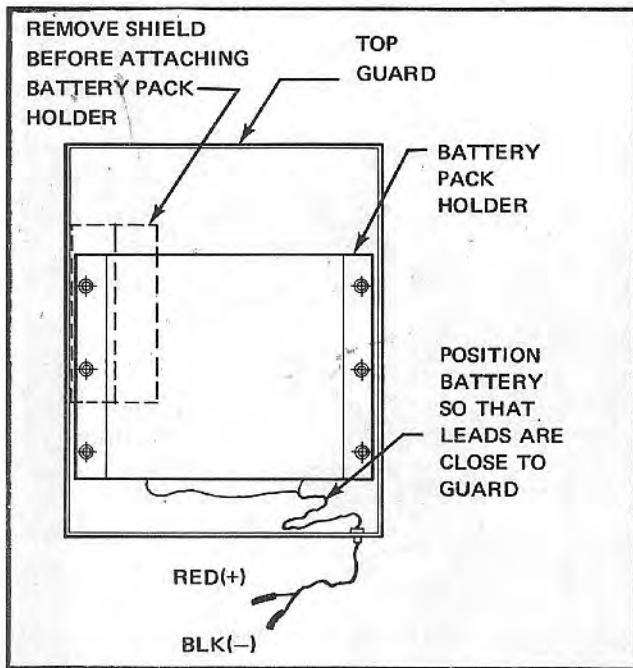

Figure 6-9. BATTERY OPTION KIT INSTALLATION
side of the top guard, using the battery pack holder and the six machine screws (Figure 6-9). Orient the battery pack so the grommetted battery leads pass through the grommet hole in the edge of the guard.
g. On underside of top guard, remove shield. See Figure 6-9. Install the battery pack on the underneath